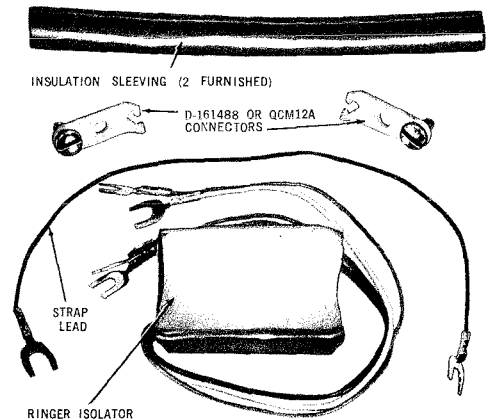

Fig. 1 — PO895087 Kit, Ringer Isolator—Components
**2.01** The ringer isolator must be ordered as a PO895087 Kit, Ringer Isolator which consists of the components shown in Fig. 1.
**2.02** The ringer isolator (Fig. 1) consists of a two-transistor switching circuit mounted on a printed circuit board and encased in a vinyl insulating sleeve. The ringer isolator schematic is shown in Fig. 2. For connections refer to section 500-112-100.